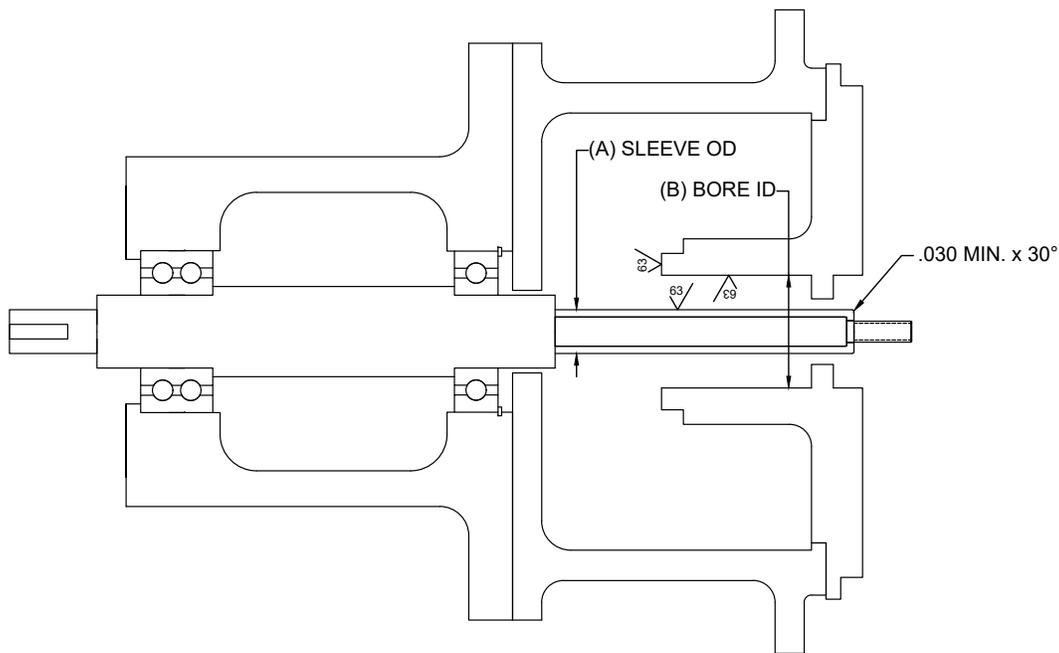

Figure 1: Surface finish and chamfer locations. Fully assembled pump without seal.
5. Sealing surfaces and shaft or shaft sleeve must have at least a 63 Ra- μ in surface finish as seen in Figure 1.
6. For ease of installation, the leading edge of the shaft or sleeve should be chamfered as shown in Figure 1 and all parts should be deburred.